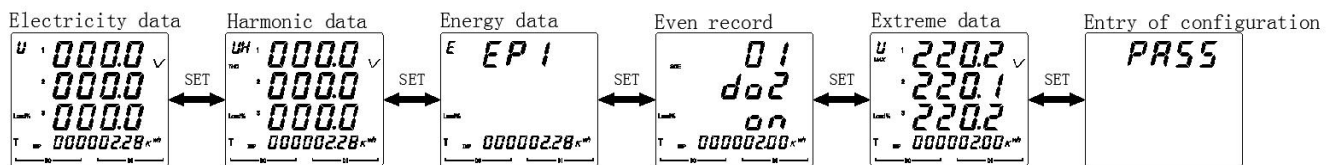

Figure 16
5.2.3 The steps for viewing various types of power parameters of the AMC72L/96L are shown in Figure 16,17.